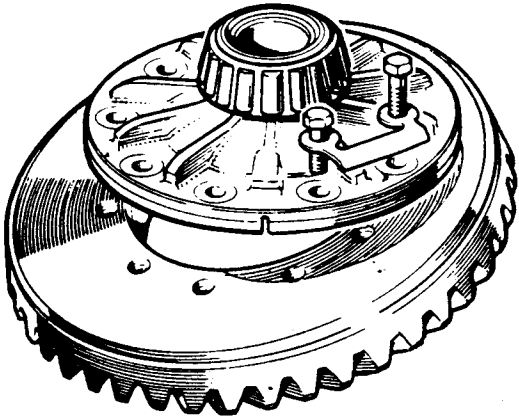

Fig J2.47
(16) Refer to Fig J2.47. Remove the crownwheel from the differential case.